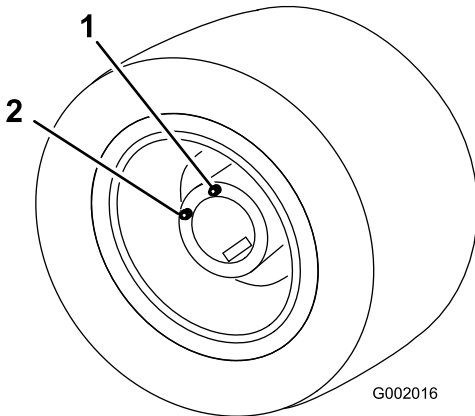

Figure 79
5. Move the vehicle slowly until the wheel is positioned for filling (Figure 79).